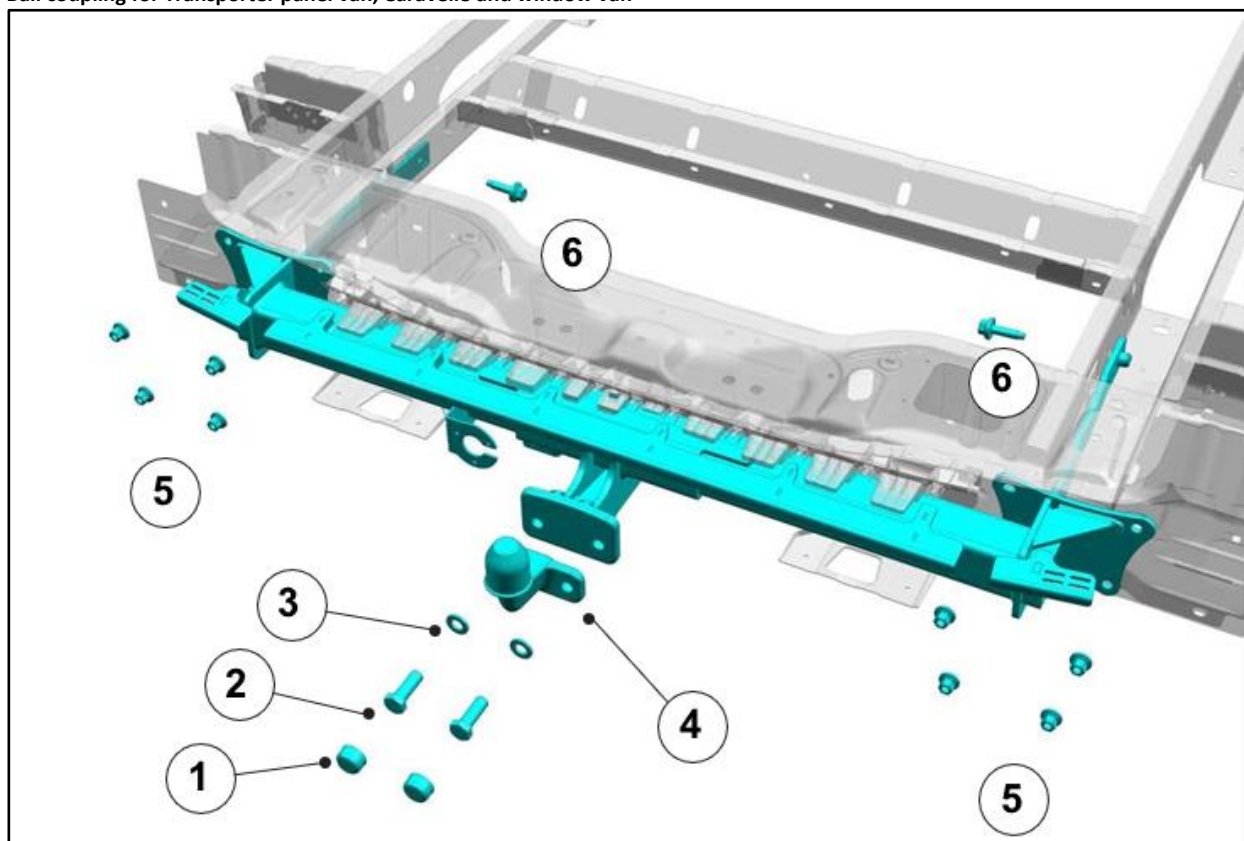
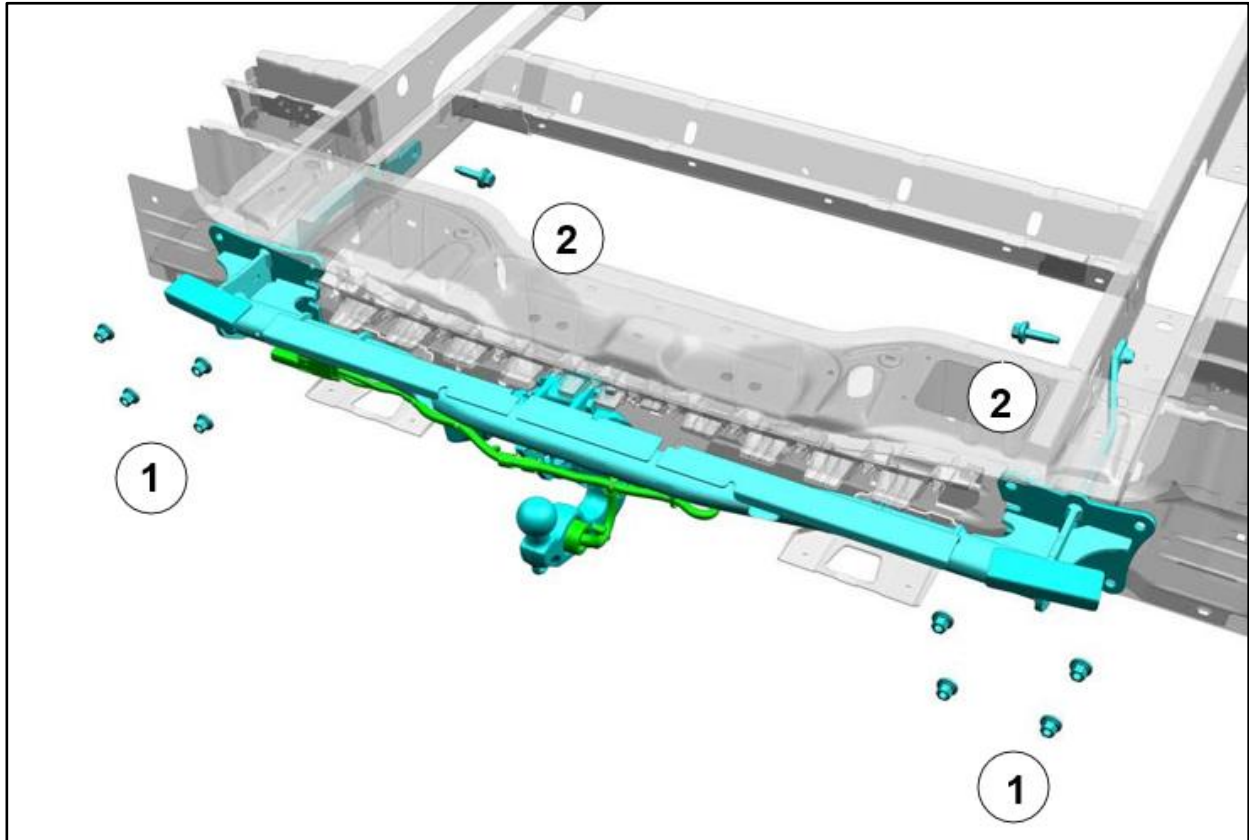

Fig. 1: Fitting the fixed ball coupling
Fig. 2: Fitting the swivelling ball coupling
When attaching a ball coupling to the longitudinal members, use new bolts and nuts in the two upper holes on each side – reuse the two bolts in the lower holes on each side to which the bumper carrier is attached, see Figures 1 and 2 in this chapter.
- To attach the ball coupling see Figure 1 and to attach the swivelling ball coupling see Figure 2